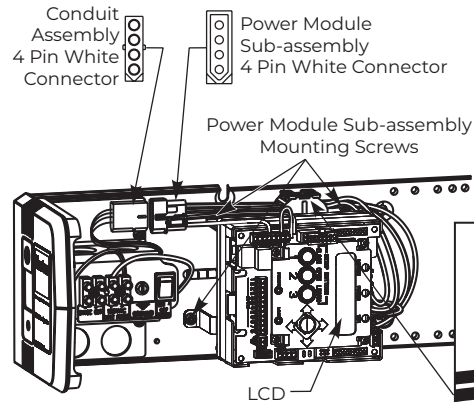

Figure 14
1. Using three (3) #8-32 x 5/16" Phillips screws, secure power module sub-assembly to backplate at location marked on backplate. (Figure 14)
NOTE: Orient assembly so LCD screen on inverter is toward closer assembly. (Figure 14)
2. Attach 4-pin white rectangular connectors between power module sub-assembly and conduit assembly. (Figure 14)